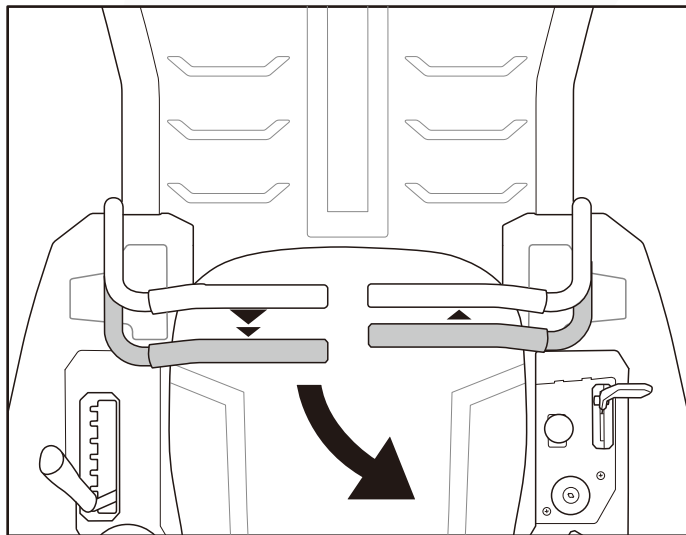

Fig.18B
2. To turn to the left while traveling in reverse, move the right drive control lever forward of the left drive control lever. (Fig. 18B)